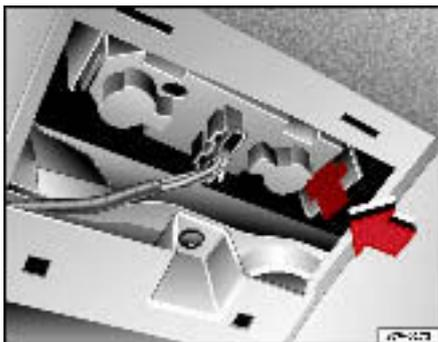

Fig. 165 Lights on tailgate
- Press the elastic tab in the direction of the arrow ⇒ page 247, fig. 165 and remove the lampholder downwards.